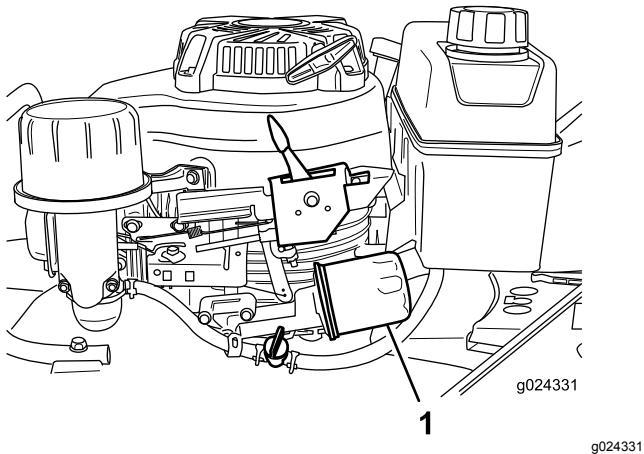

Figure 24
- Place a rag under the oil filter (Figure 24) to catch any oil that may leak out as you remove the oil filter.